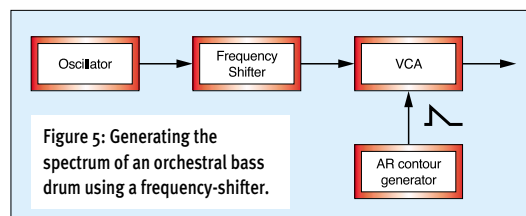

Figure 5: Generating the spectrum of an orchestral bass drum using a frequency-shifter.
— we might obtain something that sounds like a bass drum (see Figure 5 below).
Unfortunately, these low, quasi-harmonic modes are not the only important components in the sound of the drum. Because our ears are highly attuned to the frequency range that contains human speech, we are particularly sensitive to partials in the region of a few hundred Hertz. Inevitably (because the universe hates us and wouldn't want anything to be easy), the drum generates scores of partials between 250Hz and 1kHz, so we must also synthesize these. This isn't a problem, because we can recreate the required cluster of enharmonic modes using frequency modulation (FM) synthesis. We simply add to Figure 5 two oscillators — one modulating the other — plus a band-pass
rapidly with increasing frequency. If so, a triangle wave or a filtered sawtooth wave will be an ideal starting point for bass-drum synthesis. As for the decay rates, a number of texts suggest that the rate is constant across all the important partials. This means that — although I was guessing when I drew Figures 5 and 6 — we should be safe using a single VCA and EG to simulate the decay of the sound.